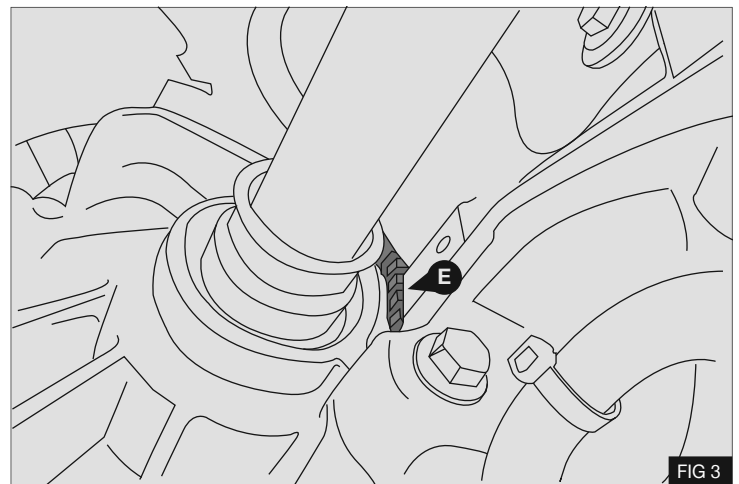

FIG 3
4. Lock the engine flywheel (E) using a large flat screwdriver - Fig 3